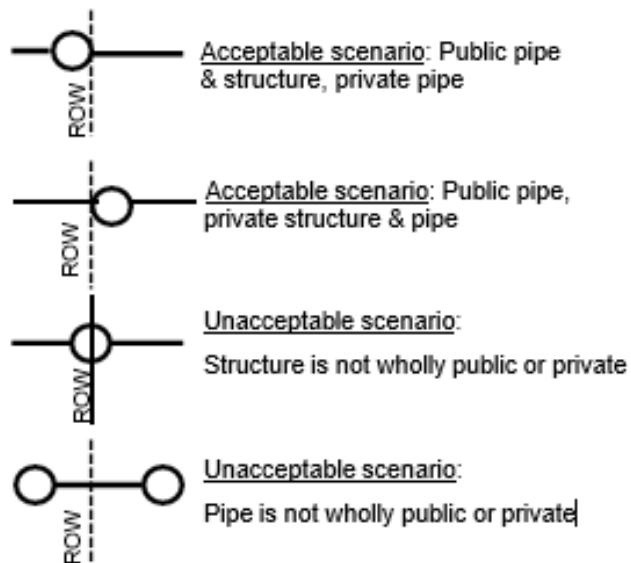

Figure 1: Pipe & Structure Placement Examples
- Option 1: Provide a private easement (width based on the private pipe diameter & SWMM Chapter 2.6 \(Easement\)); the private easement would be superimposed over the public easement, beginning at the point where the private pipe enters the outside wall of the public structure, and end where the pipe exits the public easement. This easement would be recorded via the project's Final Plat or by separate Easement Plat, whichever is feasible. See Figure 1, Example 1.
- Option 2: In rare situations, it may be feasible to provide a public drainage easement to include pipe and/or structure. This option is only with the approval of the City Engineer. See Figure 1, Example 2.
- Option 3: Provide a structure placed immediately adjacent to the public ROW line (or public drainage easement line), and wholly inside or outside of the ROW (or easement). See Figure 1, Example 3.